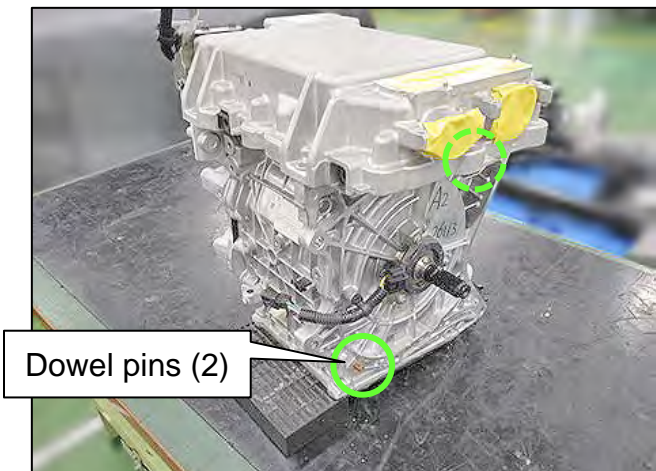

Figure 96
**IMPORTANT:** Ensure that the two (2) dowel pins remain with the Traction Motor (Figure 96).